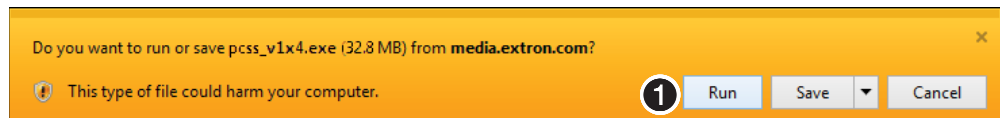

Figure 14. Download Warning and Confirmation
6. If your browser asks you to confirm that you want to continue, click **Run** or make a similar confirmation (see figure 14, **1**).
NOTE: Figure 14 may appear different or may not appear at all, depending on your Web browser choice and its security settings.